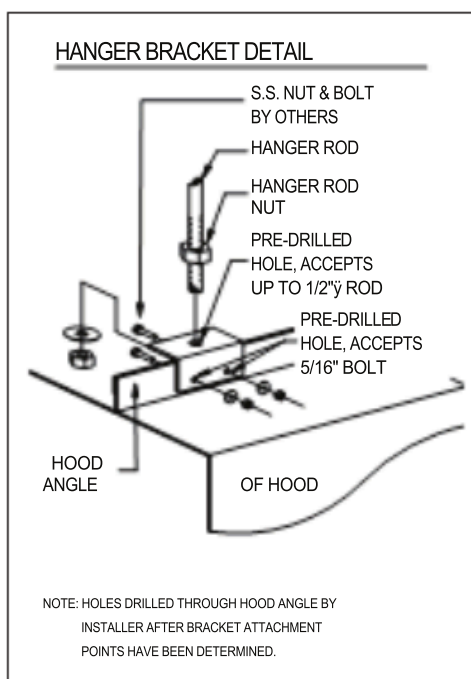

FIGURE 1
4. Suspend hood from adequate roof supports using 1/2" threaded rods with nuts and washers (See Fig. 1).